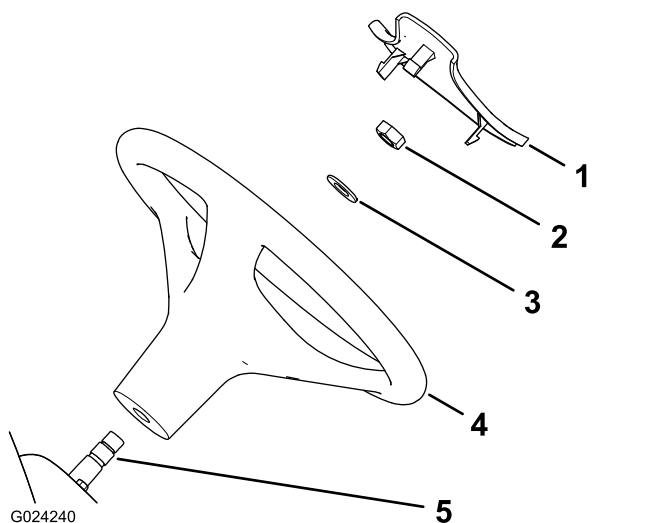

Figure 3
1. If the cover is installed, remove it from the hub of the steering wheel (Figure 3).
2. Remove the nut from the steering shaft (Figure 3).
3. Slide the steering wheel and washer onto the steering shaft (Figure 3).
5. Install the cover on the steering wheel (Figure 3).